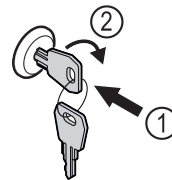

Fig. 167 Example illustration
- ▶ Insert key Fig. 167 (1).
- ▶ Turn key clockwise by 90° Fig. 167 (2).